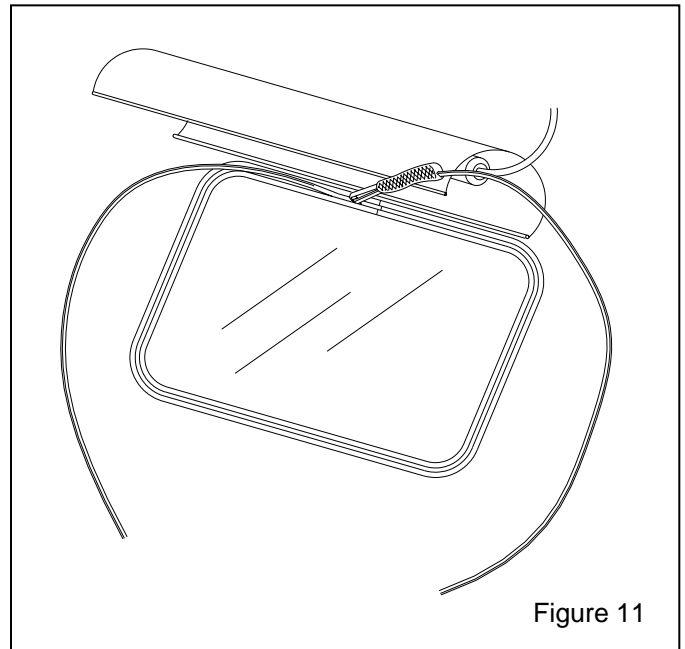

Figure 11
6.3.9. Insert the end of the installation tool and filler strip into the filler strip channel of the molding, about two inches to the left of the window molding ends, as shown in Figure 11. The rounded side of the filler strip faces up.